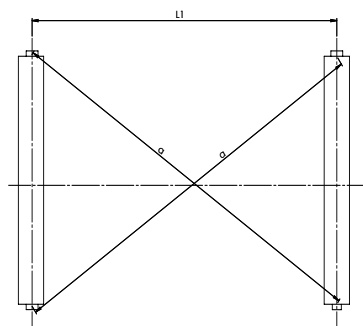

Figure 125
- Measure the diagonal distance "a" between the ends as shown in the drawing below. If the distances are equal, the alignment is correct (fig 125).